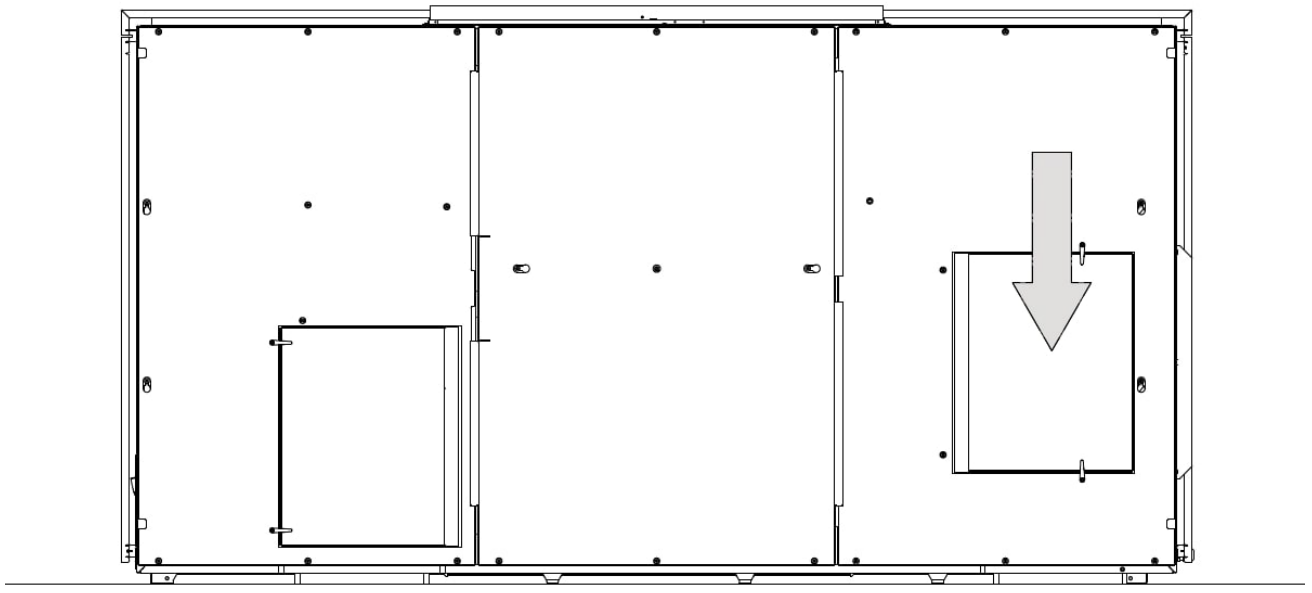

*Figure 46: Lift the right-hand side plate onto the hinges*
11. Lift the plate up and onto the hinges just as you did on the other side, see Figure 46.